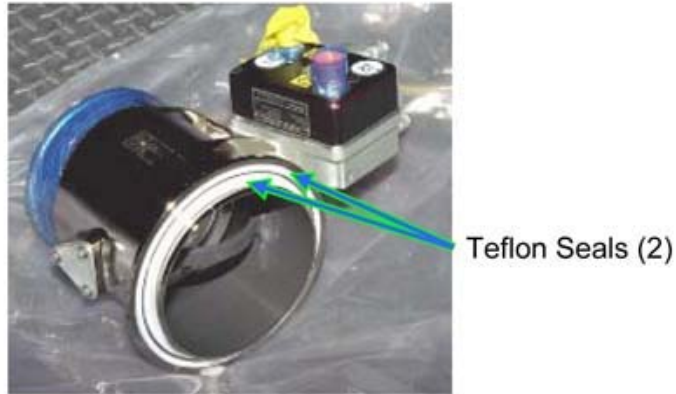

Figure 6. - Typical View IMV Teflon Seals.
Refer to Figure 6.
- 5.2 Using reference mark "H" (on bulkhead) and "IMV VLV ALIGNMENT MARK" arrow (on valve), align IMV Valve to bulkhead. Install V-Band Clamp loosely to hold Valve in place (Ratchet, 1/4" Drive; 4" Ext, 1/4" Drive; 7/16" Deep Socket, 1/4" Drive). Refer to Figures 6 to 10.